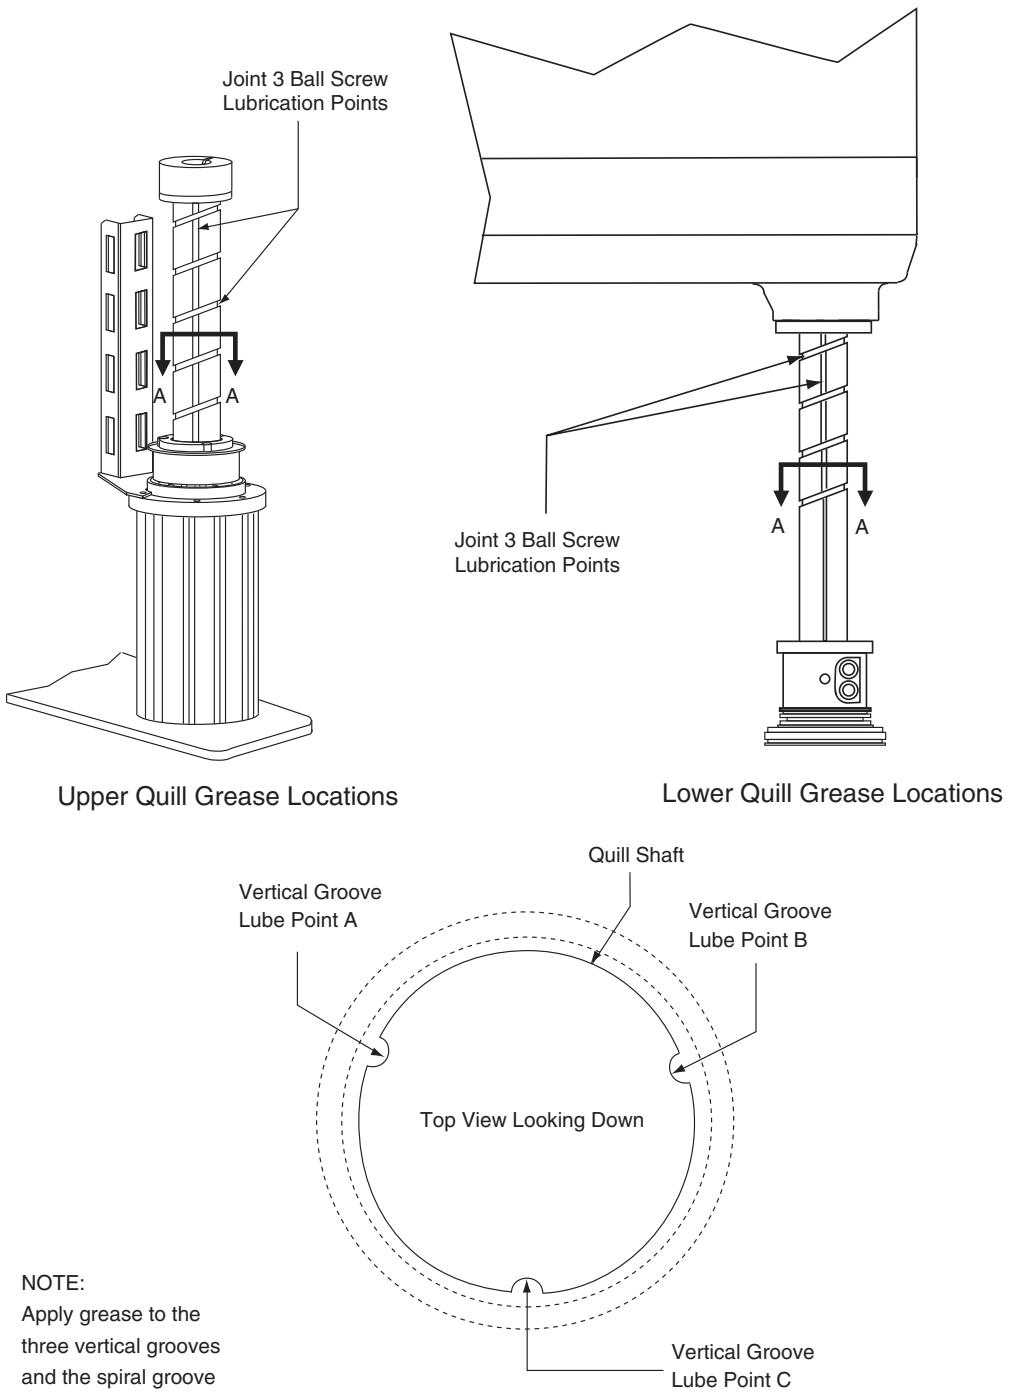

Figure 5-1. Lubrication of Joint 3 Quill
5. Using a syringe, apply a small bead of grease to the Joint 3 ball screw grooves, see Figure 5-1.